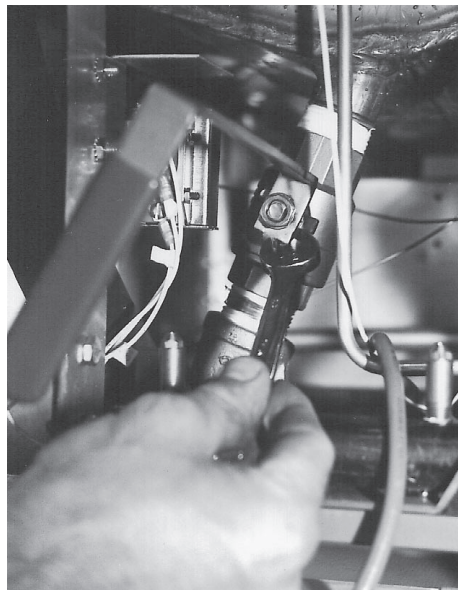

Fig. 60
3. With a $\frac{1}{2}$ " wrench, remove nut and washer securing the ball valve handle. (This is an optional step if the ball valve being removed is located on the sink side of the cooker.) It may also be necessary to follow steps 1-4 under Removal of Cooker Burners. (Fig. 60)